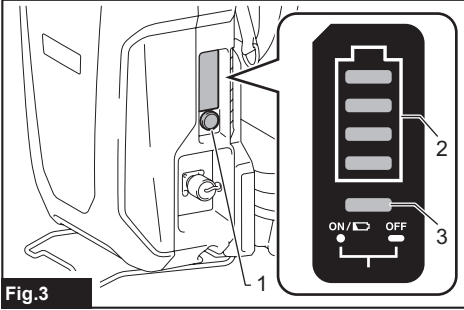

Fig.3
► Fig.3: 1. Power button 2. Indicator lamp 3. Main power lamp